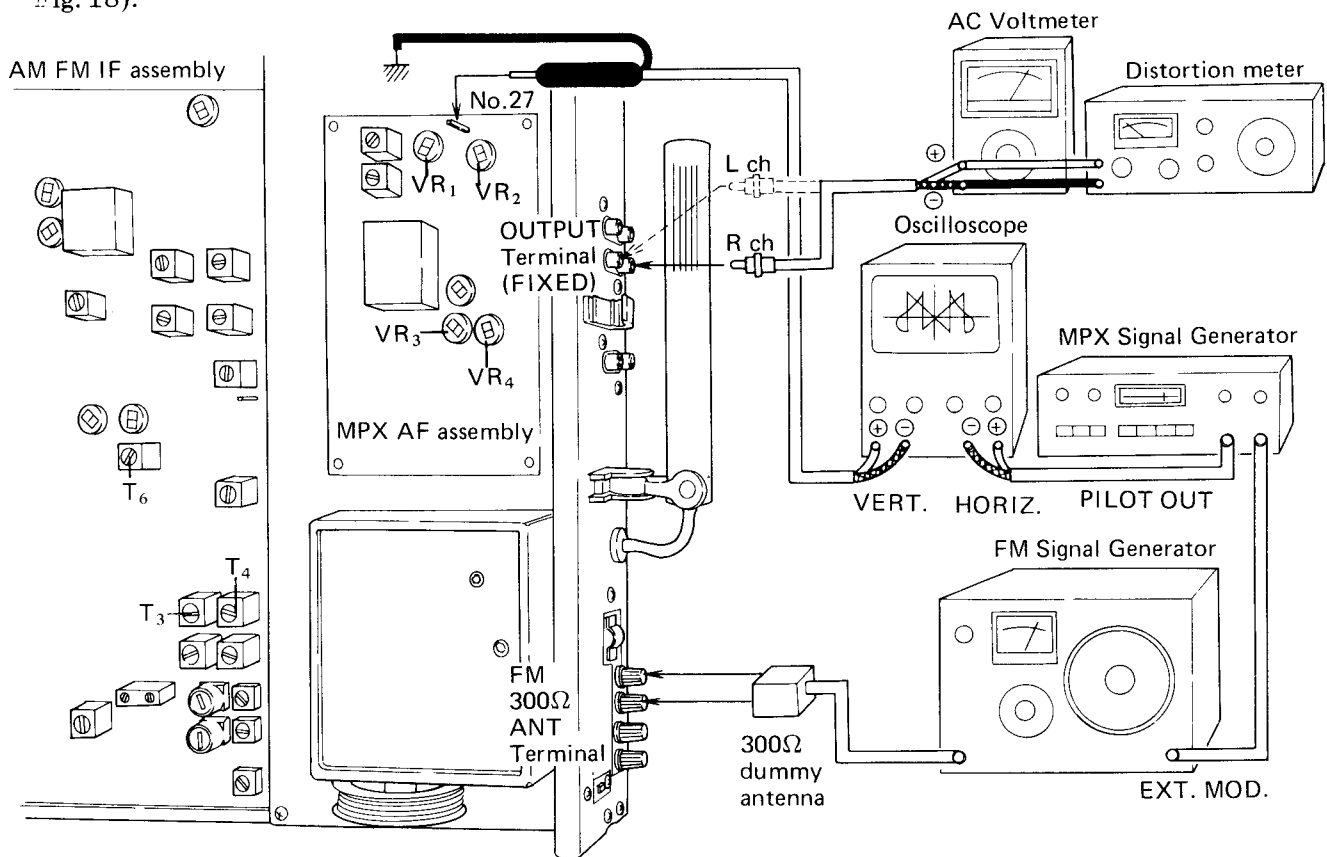

Fig. 17
- Connect the test instruments as shown in Fig. 17.